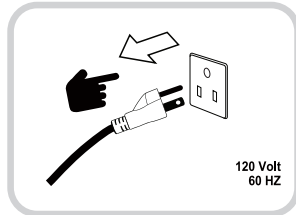

Fig. 4
3. Disconnect the power supply (Fig. 4).